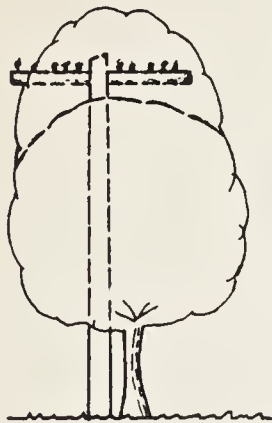

Figure 1
- 4.1 The best trimming is that which leaves the tree most natural in appearance. There are four main types of trimming for clearance: (1) topping, (2) side trimming, (3) under trimming, and (4) through trimming. Proper shapes are illustrated in figures 1, 2, 3 and 4 of Exhibit A. Leave trees symmetrically shaped.